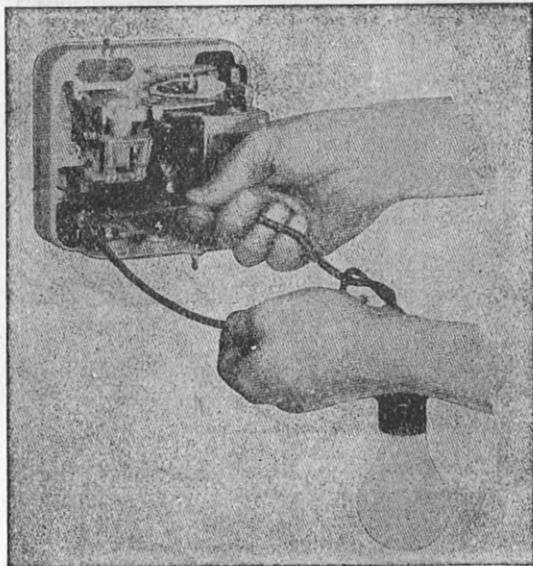

FIG. 9.—Using test lamps across contacts of the primary control.
- a. If there be current to posts No. 1 and No. 2, in the primary control the difficulty is in the thermostat or master control. Check with test lamps across No. 1 and No. 2 terminals as in fig. 9 with burner switch turned on. If the test lamps light there is current to these two posts.
- b. Test the live service with a test lamp as in fig. 9. The lamp should light when placed across terminals No. 1 and No. 2 of the primary control.